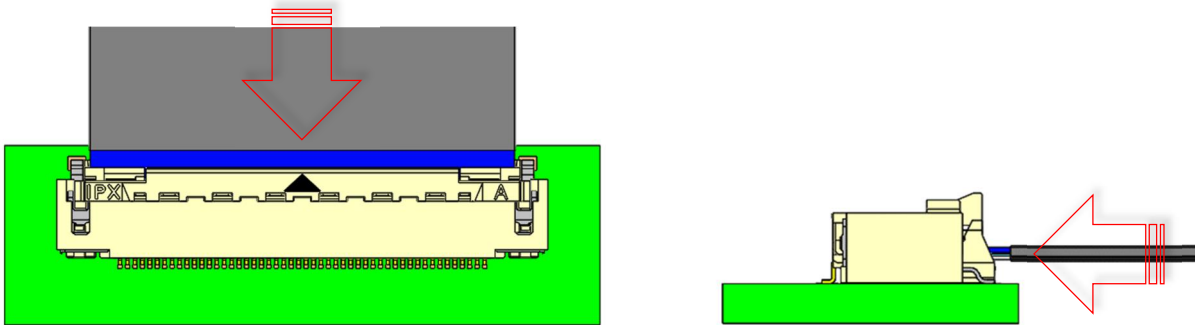

Fig.2-4 FFC/FPC insertion method 4
③ Insert the FFC / FPC completely keeping it horizontally to the connector as shown in Figure 2-4.